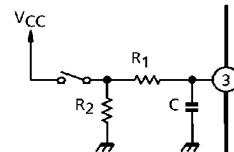

Fig.1 Mode switch circuit reducing a pop sound
**APPLICATION NOTE****1. MODE SW (pin③)**
- It is necessary to connect an external pull-down resistor with the terminal of MODE SW (pin③), in case that this IC mode doesn't operate normally due to external noise etc.
It is advised to connect R1, R2 and C with the terminal of MODE SW (pin③), to reduce a pop sound is switchover between single IF mode and dual IF mode (see Fig.1).